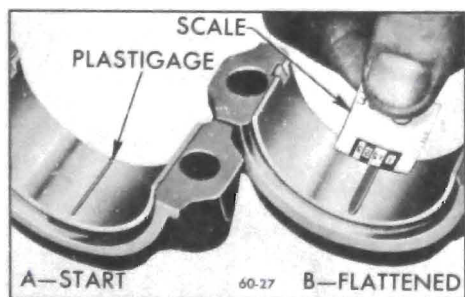

Figure 60-117--Checking Bearing with Plastigage
2. Place a piece of Plastigage lengthwise along the bottom center of the lower bearing shell (Figure 60-117, View A). Install cap with shell and tighten bolt nuts to 35 lb. ft. torque.
5. Using the scale printed on the Plastigage envelope, measure the flattened Plastigage at its widest point. The number within the graduation which most closely corresponds to the width of Plastigage indicates the bearing clearance in thousandths of an inch. See Figure 60-117, View B.